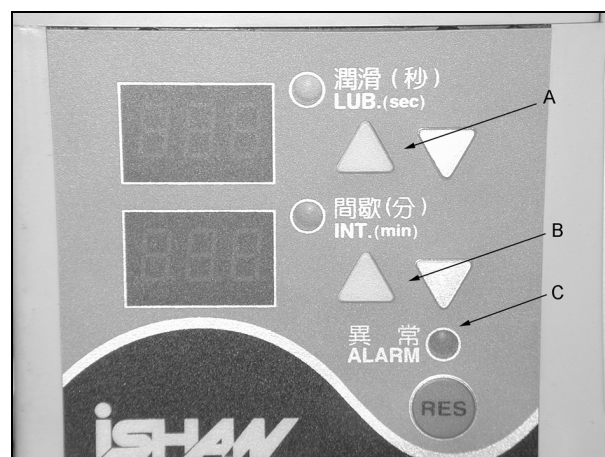

Figure 12
2. To change the duration of the burst push and hold the arrow up button (A, Figure 12) until a beep is heard. Then use the arrow keys to increase or decrease the duration. The display shows the duration in seconds.
3. To change the length of time between bursts press the arrow up button (B, Figure 12). until a beep is heard. Then use the arrow keys to increase or decrease the interval. The display shows the interval length in minutes.